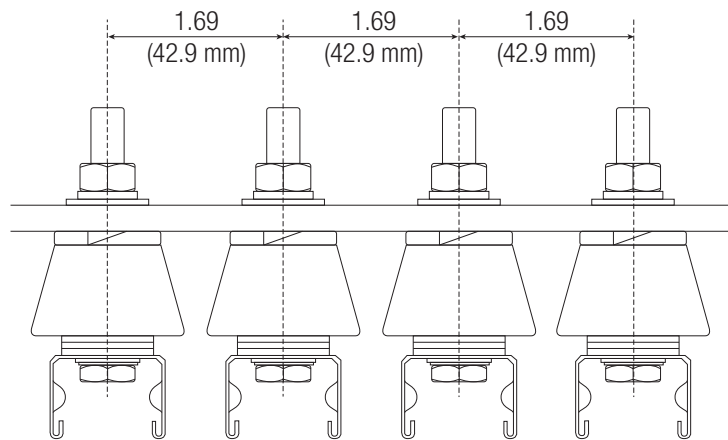

Figure: 5-3
5.2.2 Assemble as shown in the diagram ensuring the correct alignment is observed (see Figure: 5-3).